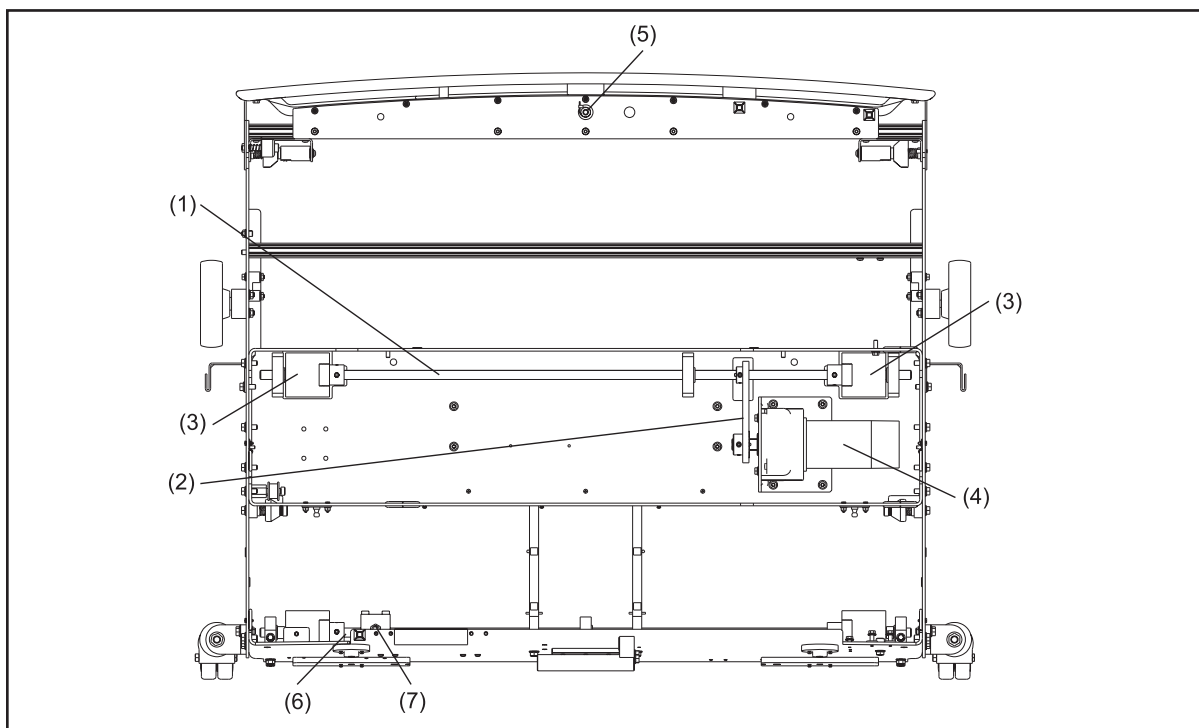

Figure 2-8. Traction Drive System
1. The traction drive motor turns a chain which rotates the traction wheel drive shaft. The traction drive wheels contact the lane surface and as the traction wheel drive shaft turns, the machine begins to move down the lane towards the pin deck. Refer to Figure 2-8.